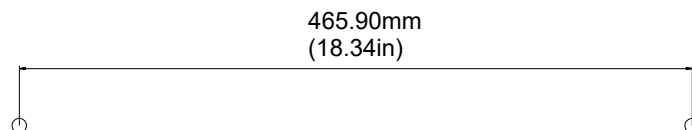

Figure 5-9
4. Drill holes on the wall, Φ 11mm in diameter and 50mm deep. Refer to Figure 5-9.